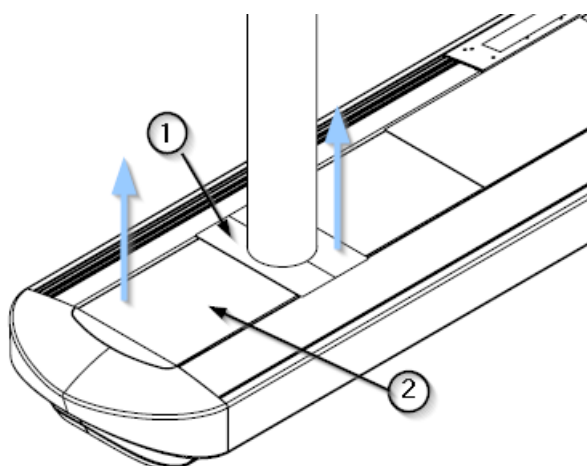

Fig. 2 Removal of main body covers
- Using a hexagonal tool, remove the 4 M6 x 25 screws (1) and the 4 corresponding washers DIN 9021 (2) as shown in figure 2.
- The end cap bracket (3) is now visible. Remove it by removing the 4 M6 x 25 screws (1) and the 4 corresponding washers DIN 9021 (2) using the same tool as shown in figure 2.
- First attach the end bracket (3) and secure it with 4 M6 x 25 screws (1) and 4 corresponding washers DIN 9021 (2).
- Then place the end cap in position and secure it with 4 M6 x 25 screws (1) and 4 corresponding washers DIN 9021 (2).